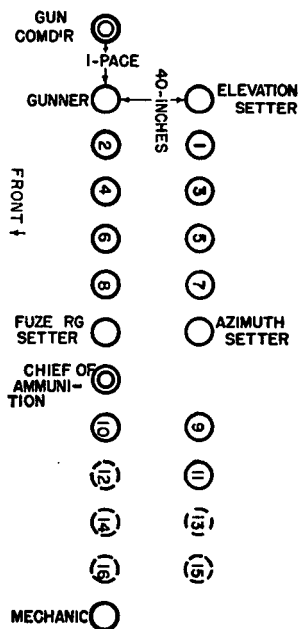

FIGURE 1.—Formation of gun section.
■ 6. **FORMATION** (fig. 1).—The battery is formed as prescribed in FM 4-120. Each gun section assembles in two ranks with 4 inches between files and 40 inches between ranks. After forming the section, the gun commander takes post in the front rank 1 pace to the right of his section. At the firing point, at the command **FALL IN**, the section normally forms facing the piece.